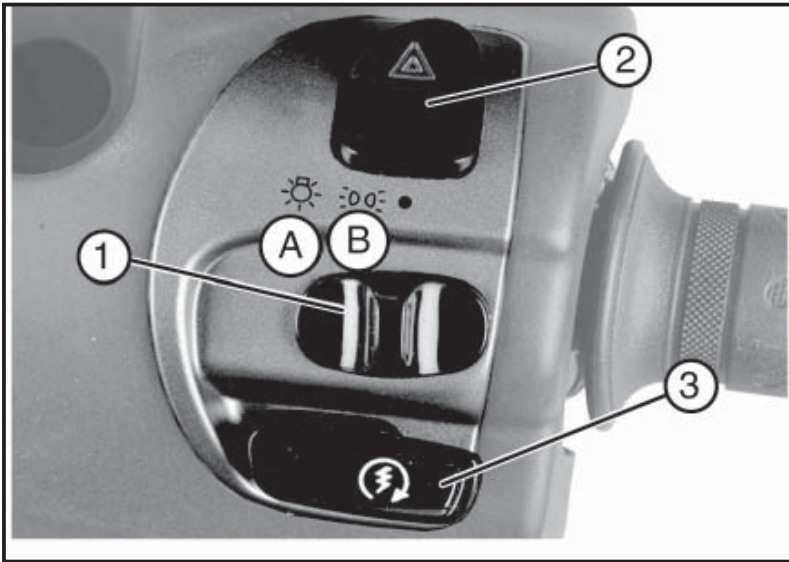

Fig. 01
4.10 RIGHT HANDLEBAR SWITCHES (Fig. 01)